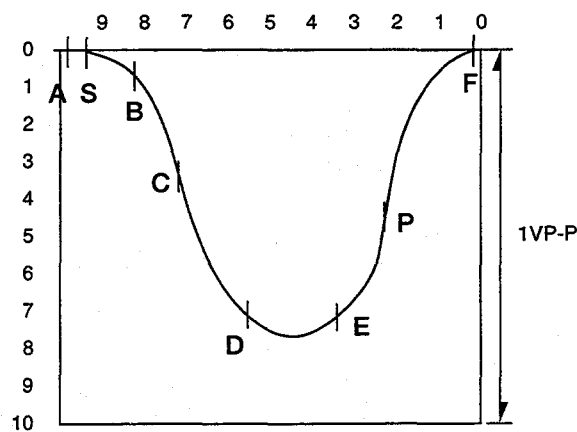

Fig. 4
4. Adjust T103 to obtain the waveform as in Fig. 4